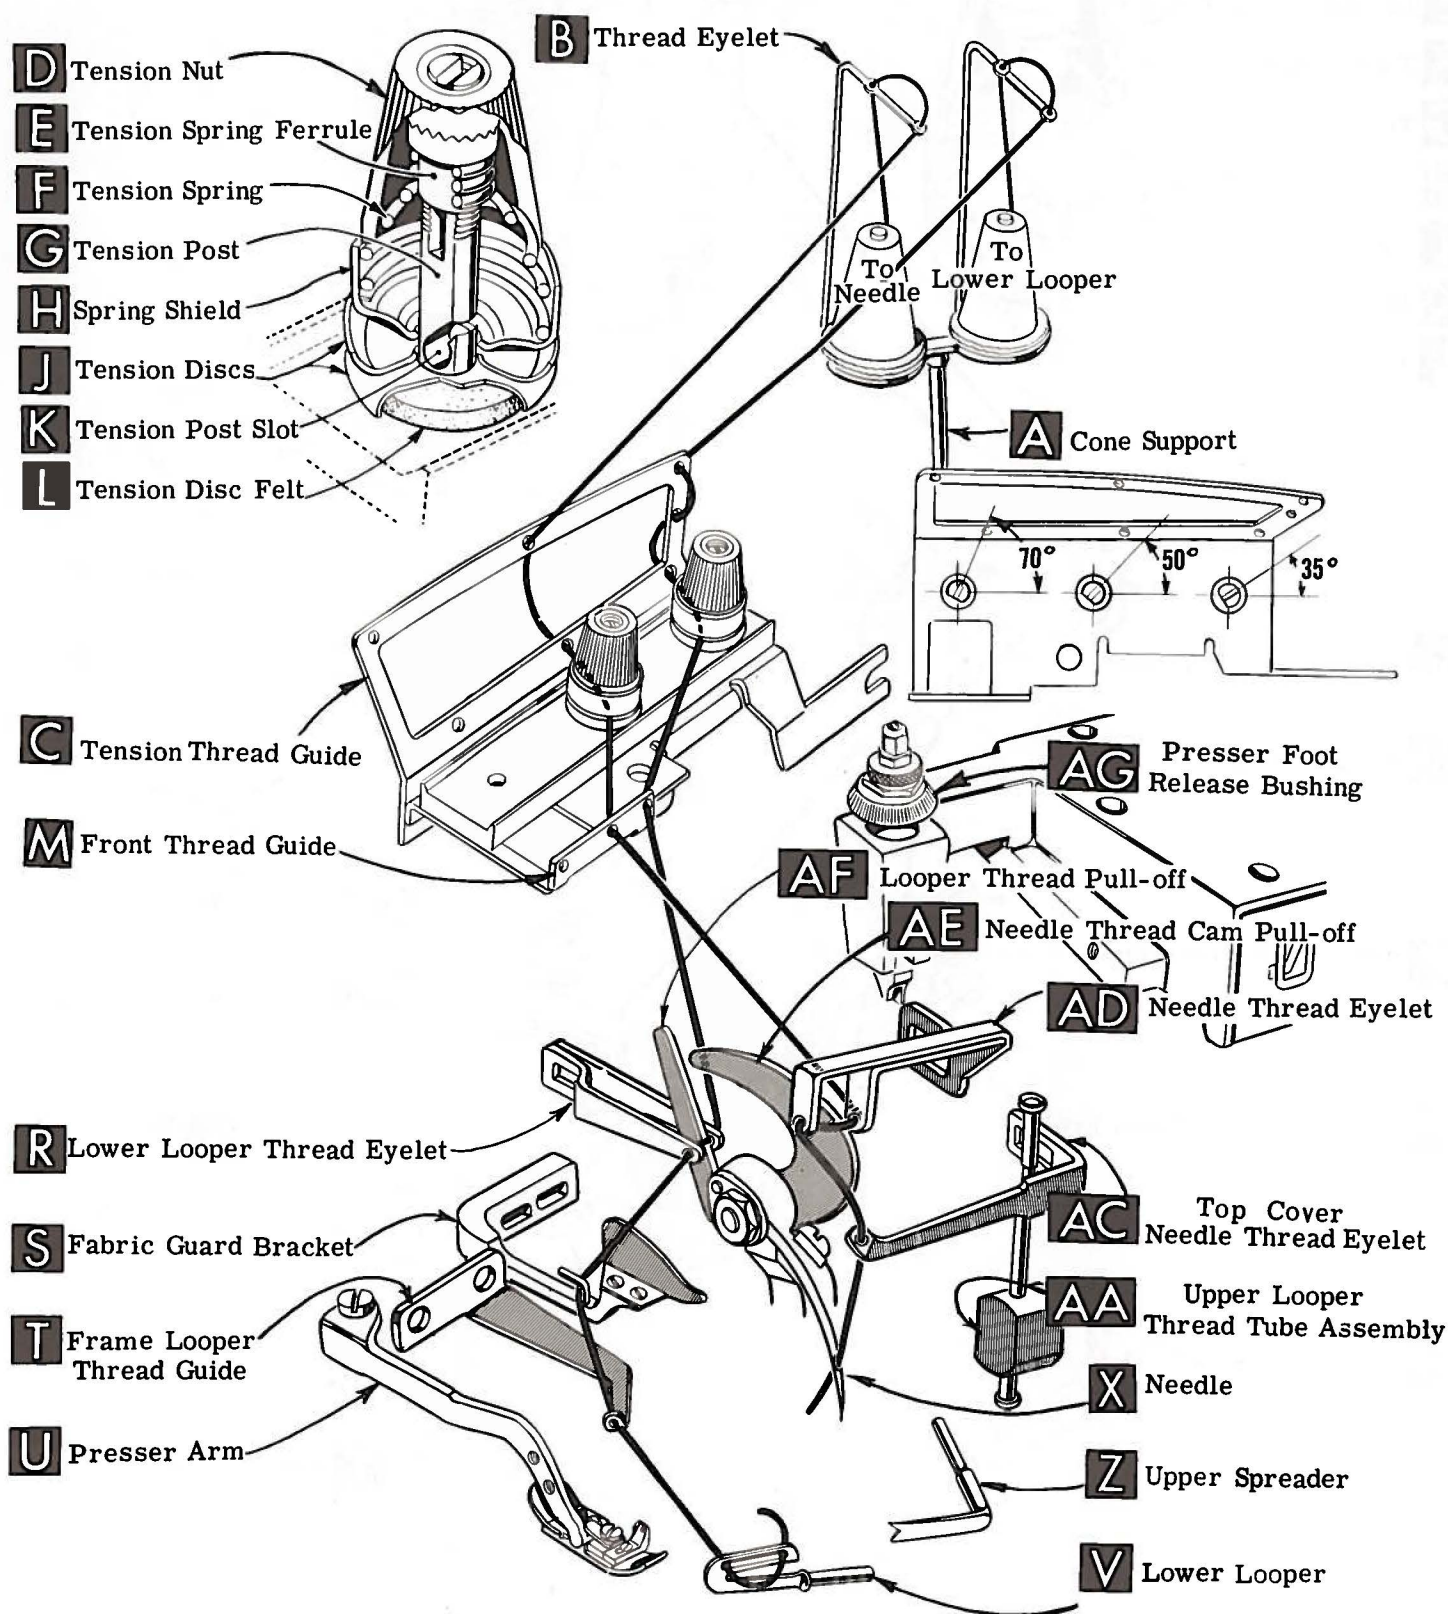
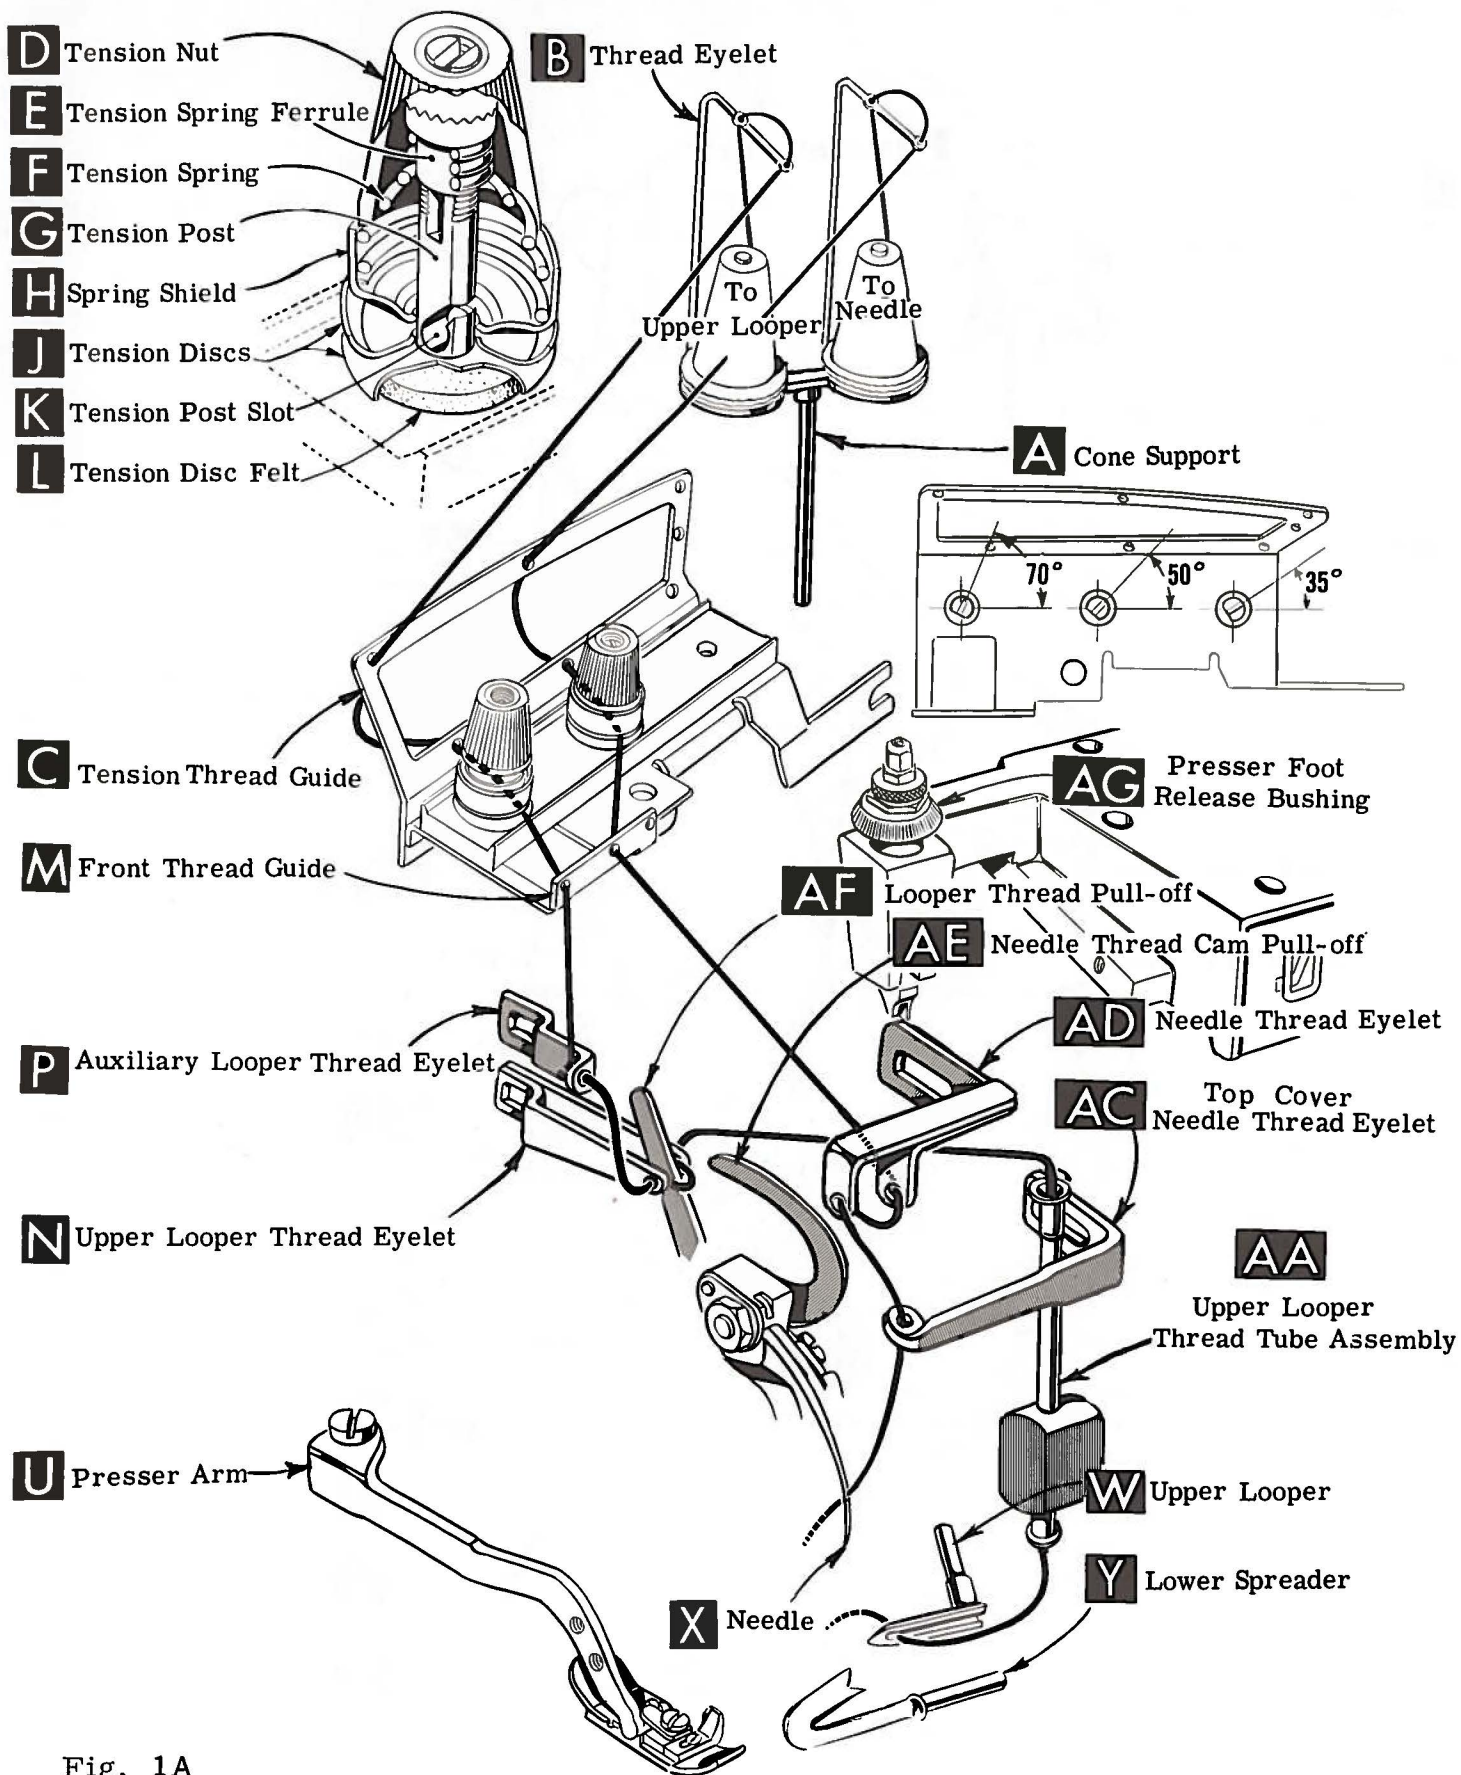

Fig. 1
Fig. 1A
Release pressure on presser foot by turning presser foot release bushing (AG, Fig. 1 or 1A) and swing presser arm (U) out of position. Turn handwheel in operating direction until needle is at its lowest point of travel. Using hexagonal socket wrench No. 21388 AU, furnished with machine, loosen needle clamp nut about 1/4 turn. Again turn handwheel until needle is at high position, withdraw needle.
After thread comes from cone on cone support (A, Fig. 1 or 1A) it is brought up through the back hole of thread eyelet, then down through the front thread eyelet (B). Next, it is threaded through the appropriate upper holes from front to back in tension thread guide (C), then through the lower holes from back to front. Then thread continues between tension discs (J) through slot (K) and on through thread guide (M).
Only parts involved in threading are shown in threading diagram (Fig. 1 and 1A). Parts are placed in their relative positions for clarity.
NOTE: Use Fig. 1 for threading Styles 39500 FF, FG, FH and JD; use Fig. 1A for Style 39500 GN.
Double end of thread and lead it through both eyes of lower looper thread eyelet (R, Fig. 1) from right to left. Note; thread must pass in front of looper thread pull-off (AF). Lead thread behind fabric guard bracket (S) and through frame looper thread guide (T). Turn handwheel in operating direction until heel of lower looper (V) is all the way to the left, then thread through both eyes from left to right. Left eye of lower looper can be threaded easily if tweezers are in left hand.
Double end of thread and lead it through left eyelet of thread guide (M, Fig. 1A). Turn handwheel until point of upper looper (W Fig. 1A) is all the way left. Lead thread through auxiliary looper thread eyelet (P) from back to front, then through both eyes of upper looper thread eyelet (N) from left to right.
Turn handwheel in operating direction until needle (X, Fig. 1 or 1A) is at its highest position. Insert needle thread from right to left, through both eyes of needle thread eyelet (AD) under neck of top cover casting, then down through hole in top cover needle thread eyelet (AC). Thread needle from front.
The amount of tension on needle and looper threads is regulated by two knurled tension nuts (D, Fig. 1 or 1A). Tension on threads should be only enough to secure proper stitch formation.
thread control as follows: Usually all needle thread is drawn on needle down stroke. At top of needle stroke, thread should be just tight enough to feed chain off stitch tongue. Stitch tends to pull down slightly if excessive thread is pulled on the up stroke. With needle at bottom of stroke, position needle thread eyelet (AD, Fig. 1) so that needle thread cam pull-off (AE) just contacts needle thread.
With material under presser foot, set lower looper thread eyelet (R, Fig. 1) back and down far enough so